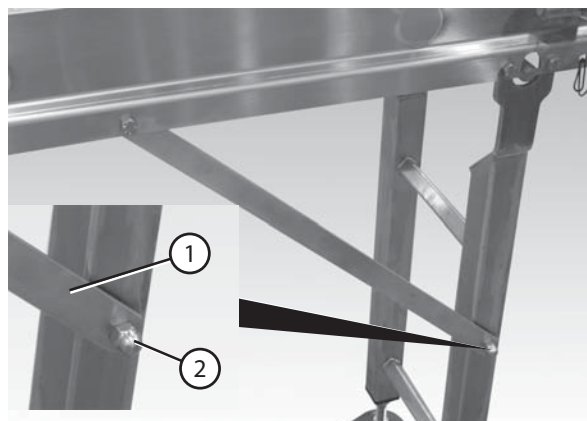

Figure 17
1. Attach the bracing bar (**Figure 17, item 1**) to the stand and secure it with an M10 acorn nut (**Figure 17, item 2**).